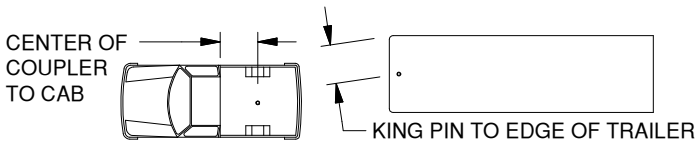

Figure A1: Truck and Trailer
2. **Evaluate clearance.** Determine if there is clearance between each truck and trailer combination before towing. Measure from the center of the coupler to the cab of the truck and from the king pin or pivot point of the trailer to the furthest forward corner of the trailer, see Figure A1. Compare these measurements to ensure proper clearance when towing. Also, inspect the clearance between the bed sides and the underside of the front of the trailer to ensure there is room for the pitch and roll of the trailer while towing.